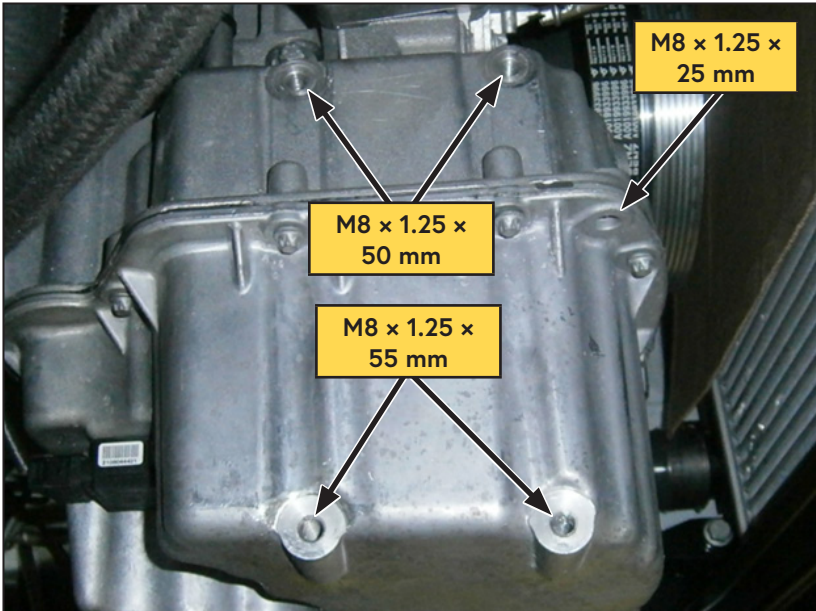

Figure 10 — VMAC Main bracket mount location
- The VMAC main bracket is secured to the engine via 5 threaded holes on the engine oil pan (4 threaded holes on the side and 1 threaded hole at the front) (Figure 10).